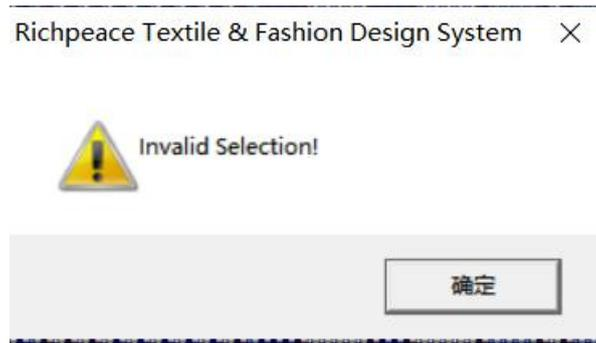

Figure 5-51 Invalid selection
1. Judging that the fabric selection box is invalid, exit the operation (Figure 5-51).